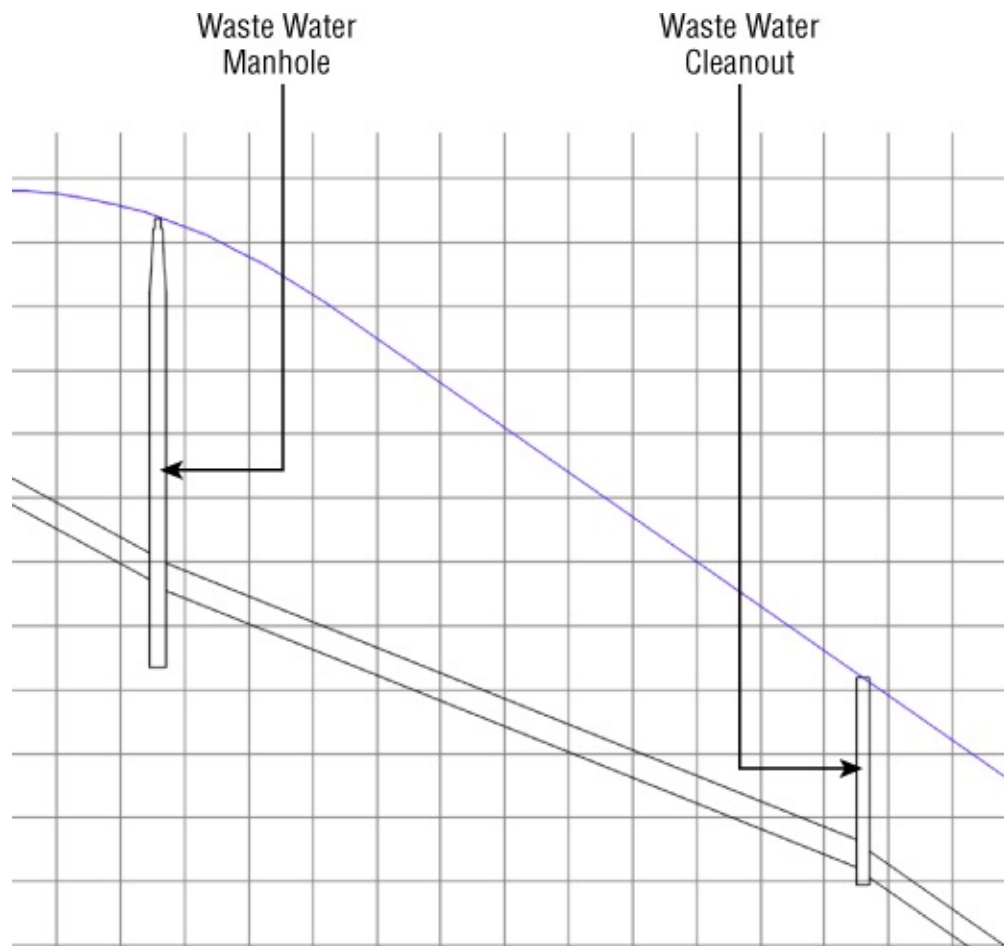

Figure 13.3 Profile view of a waste water manhole (left) and a cleanout (right)
- Manholes are shown in profile view with a coned top and rectangular bottom. Cleanouts are shown as a rectangle (see Figure 13.3).